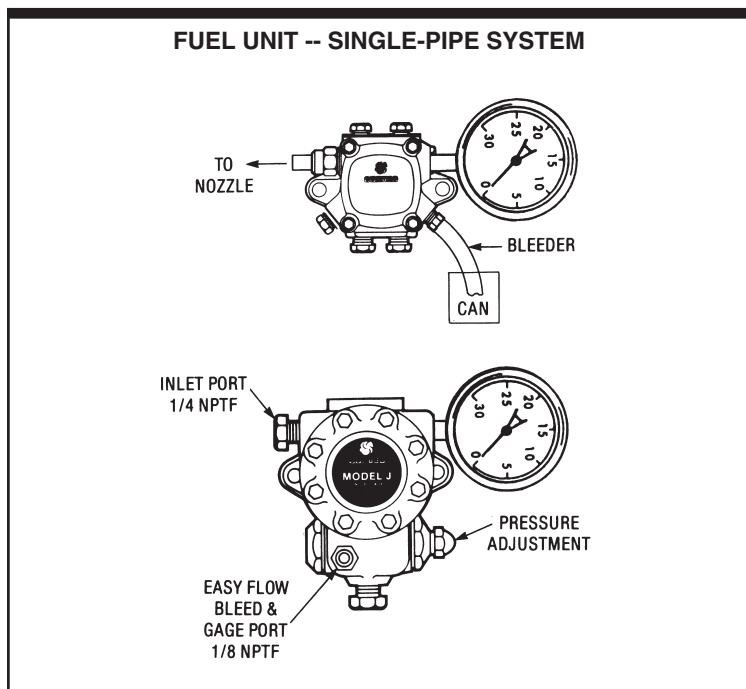

FIGURE 1 VACUUM GAGE LOCATION FOR SINGLE-PIPE SYSTEM
- Step 1. Remove inlet line from fuel unit and install vacuum gage in the inlet port (see Figure 1). If unit has been running dry, pour oil into pump prior to testing.